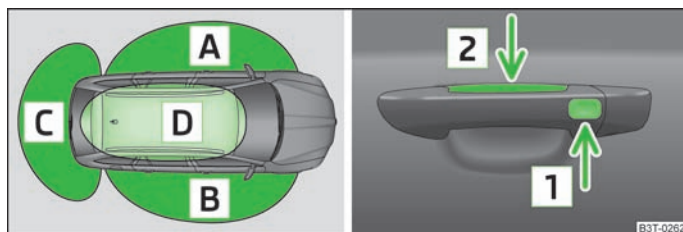

Fig. 15 KESY: Designation of the areas and unlocking/locking the vehicle
- Sensor on the outside of the door handle for the front door **1** » Fig. 15 - serves for locking the vehicle,
- Sensor on the inside of the door handle for the front door **2** » Fig. 15 - serves for unlocking the vehicle.
If a valid remote control key is located in the area **A** » Fig. 15 or **B** of the vehicle, it is possible to unlock the vehicle via the relevant door of the area in which the key is located. This means, if the key is located in the area **A**, the vehicle can be unlocked from the handle on the front left door. If the valid key is located in the area **C**, it is possible to unlock the boot lid.
- If you hold the door handle on the front door or cover the sensor **2** » Fig. 15 with the whole palm of your hand, the vehicle will unlock. If you cover the sensor **2** at the same time as the sensor **1** when unlocking the vehicle, it is not unlocked.
After locking the vehicle by means of the sensor **1** » Fig. 15, it is not possible to unlock the vehicle using the sensor **2** for 2 seconds. Thus, it is possible to check if the vehicle is locked by pulling on the handle.
- When locking/unlocking the vehicle using the sensors **1** » Fig. 15 or **2** do not use gloves or other objects that might prevent the hand from coming into direct contact with the sensor.
If the key, which was used to lock the vehicle, remains in the vehicle in the area **D** » Fig. 15 after locking and closing all of the doors including the boot lid, the protection against inadvertently locking the key in the vehicle is activated and the vehicle unlocks itself again.
If the vehicle is not unlocked within 60 hours, the sensors **1** » Fig. 15 and **2** in the handle of the front passenger's door are automatically deactivated. For reactivation, one of the following conditions must be met:
- unlocking the driver's door by means of the sensor **2** » Fig. 15,
If the vehicle is not unlocked within 90 hours, the sensors **1** » Fig. 15 and **2** in the handle of the driver's door are also automatically deactivated. For reactivation, one of the following conditions must be met:
If you hold your finger on the sensor [1] » Fig. 15 for more than 2 seconds while locking the vehicle, the opened windows and the panoramic sliding roof are closed. If the sensor [1] is released, the closing process is interrupted. If the sensor [1] is touched again, the closing process for the windows and panoramic sliding roof is continued.